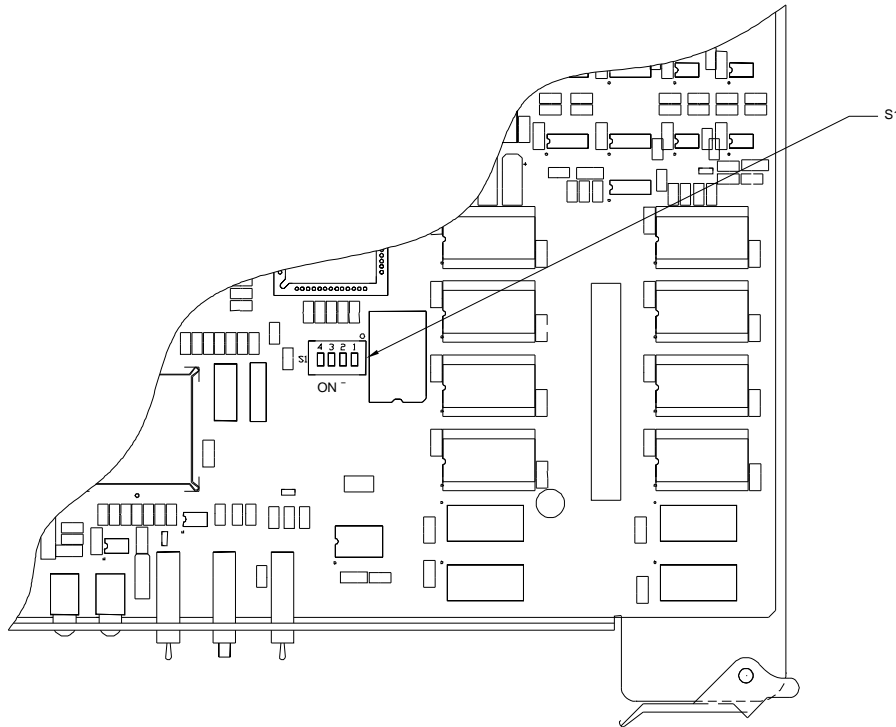

Figure 57: 3500Pro S1 (Operational Mode/Config Bypass/Comm Rate)
2. Remove the 3500Pro from the chassis to allow access to switch S1 (see Figure 57 on page 44). Set switch S1-2 to the ON position in accordance with Table 5 on page 45.